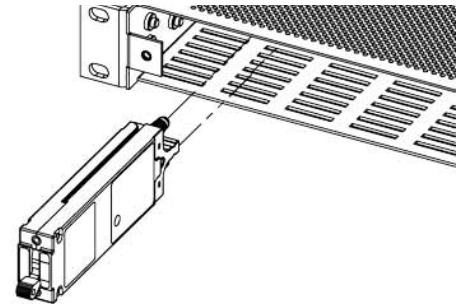

Figure 15. Breaker Installation
**Step 2.** Select a breaker of sufficient ampacity and insert it into the desired output circuit, making sure to seat the breaker securely (see Figure 15).